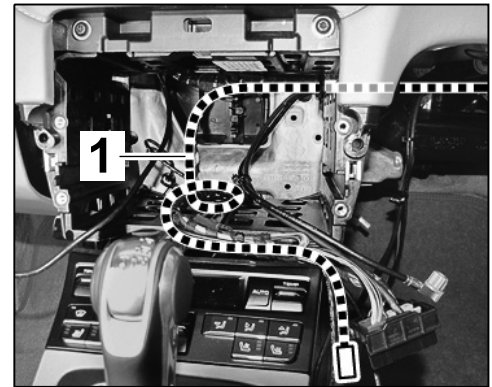

Figure 12
2.3.3 Route GPS antenna line ⇒ *Figure 12 -1-* to the PCM central connector.